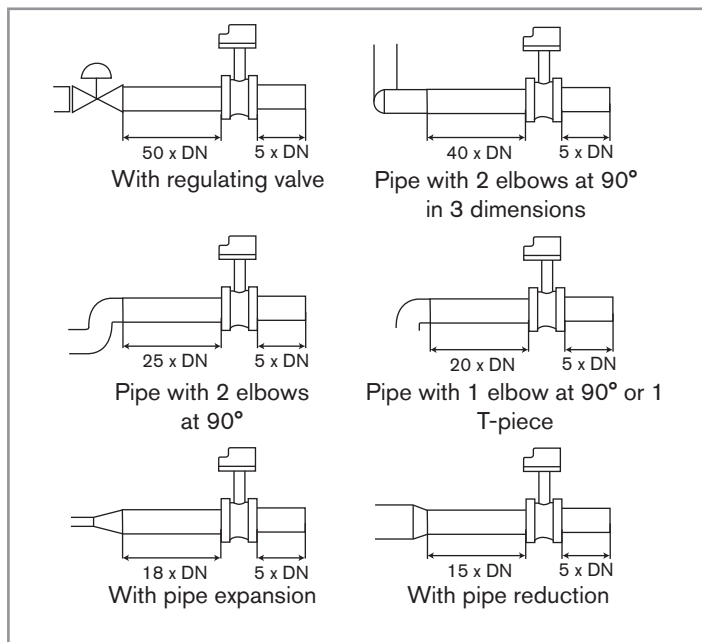

Fig. 2: Upstream and downstream distances depending on the design of the pipes.
- Install the device on the pipe in such a way that the upstream and downstream distances are respected according to the design of the pipes, as per Fig. 2 and the EN ISO 5167-1 standard.